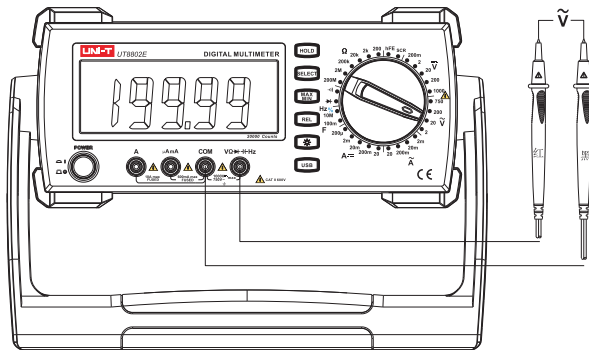

Figure 2
2.Measurement of AC voltage (see Figure 2)